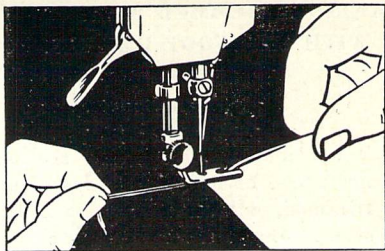

Fig. 38. Starting a Hem at the Edge.
3. Raise hemmer. Pull threads and hem slightly from you with left hand ; then, while holding threads, draw material toward you with right hand into scroll of hemmer until tacked end is caught in hemmer, as shown in **Fig. 38.**